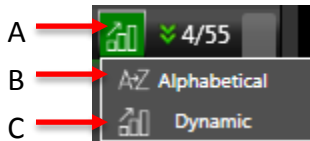

Figure 16
To sort all of the TVU Transmitters alphabetically (B) or dynamically based on their live status (C), simply click the sort button (A) above the thumbnail images of the transmitters on the left side of the receiver interface and choose the desired sorting method (Figure 16).